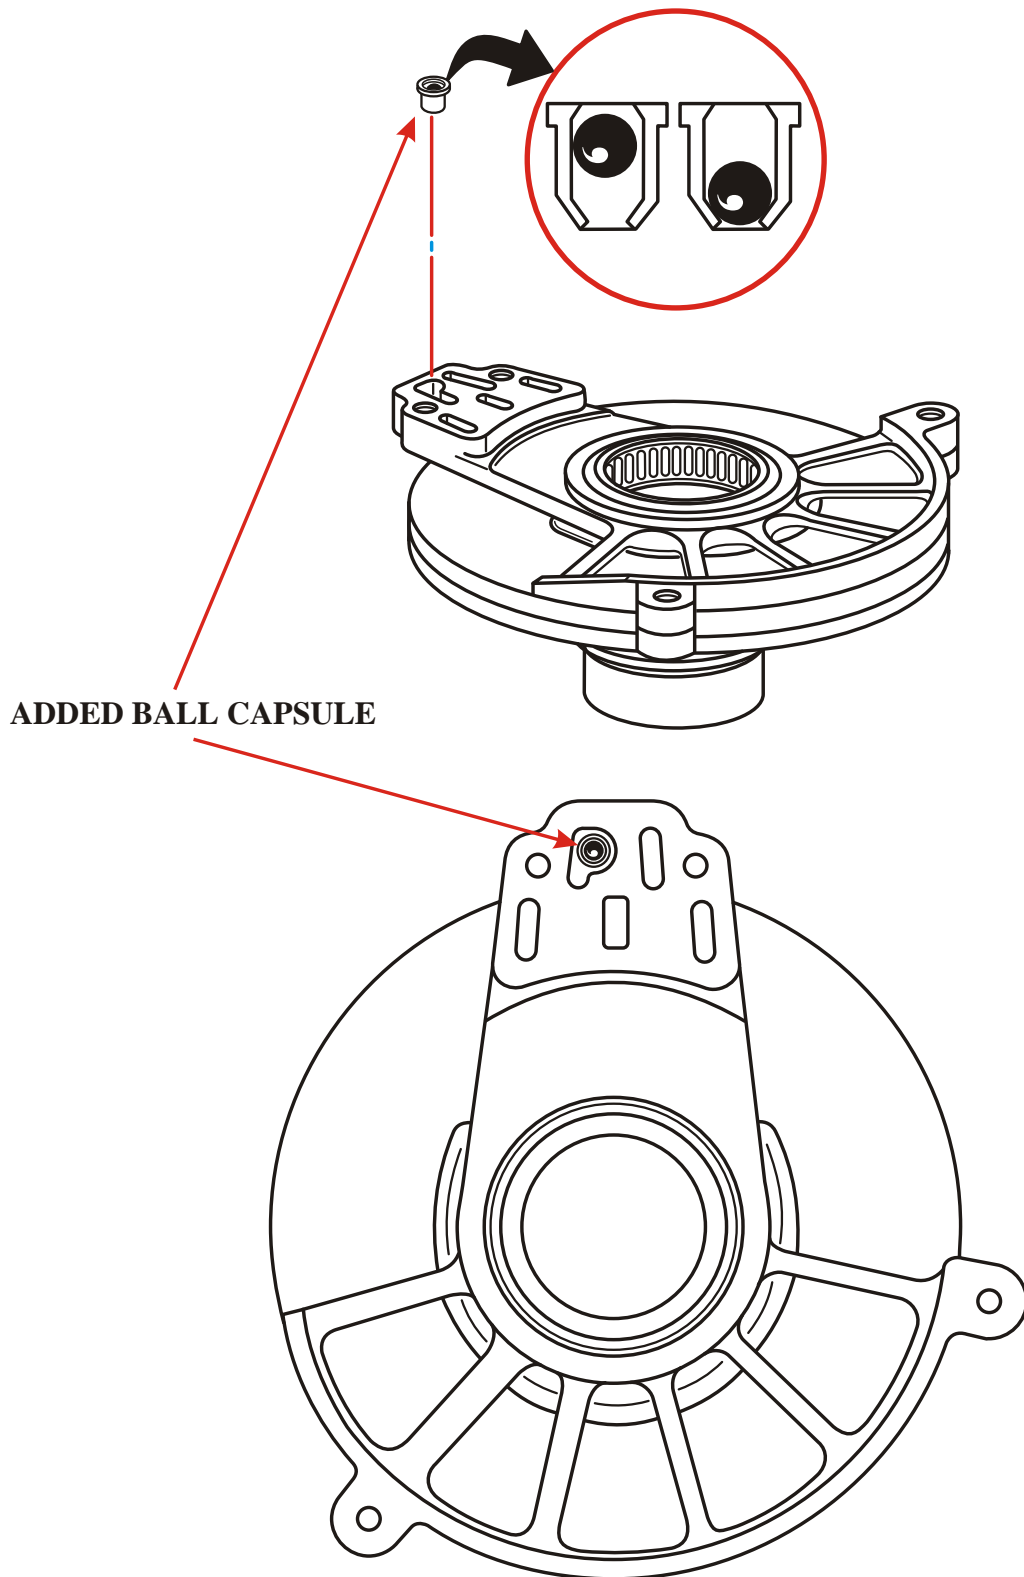

Figure 8
- (5) **DRIVEN SPROCKET SUPPORT** - Ball capsule added in the direct clutch circuit to act as an air bleed to improve direct clutch apply, as shown in Figure 8.